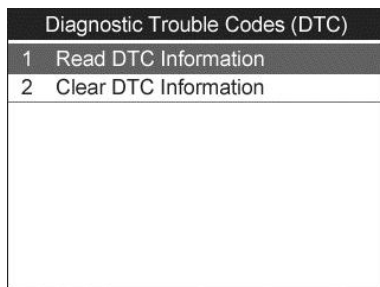

Figure 11-27
- 2) Use the **UP/DOWN** scroll button to select **Read DTC Information** and press the **OK** button. (Figure 11-27)
- 2) Use the **UP/DOWN** scroll button to select **Clear DTC Information** and press the **OK** button. (Figure 11-27)